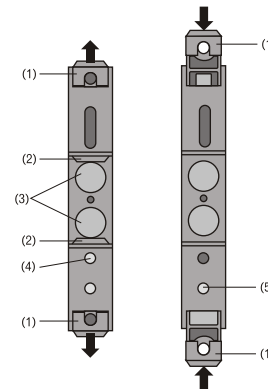

Fig. 6. Rear of device
While pressing the latch (4) in the base of the device (Fig. 6, left) pull out the isolating amplifier securing brackets(1). To return the brackets to their original positions, the latch (5) in the base of the device has to be depressed before applying pressure to the securing brackets (1) (see Fig. 6, right)